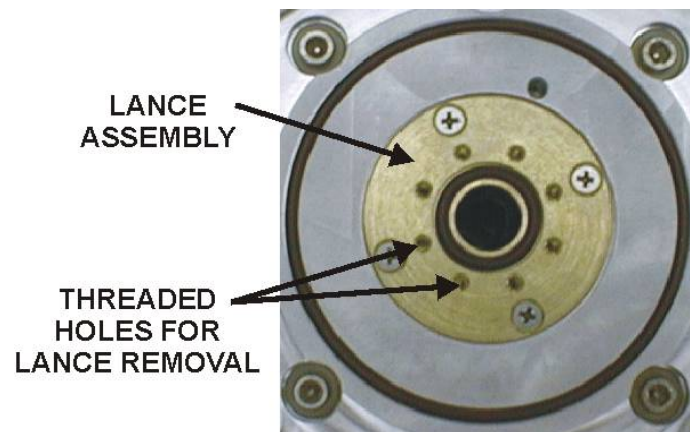

Figure 6-17
1. Remove the three screws securing the loading head to the furnace, Figure 6-17, page 6-33.